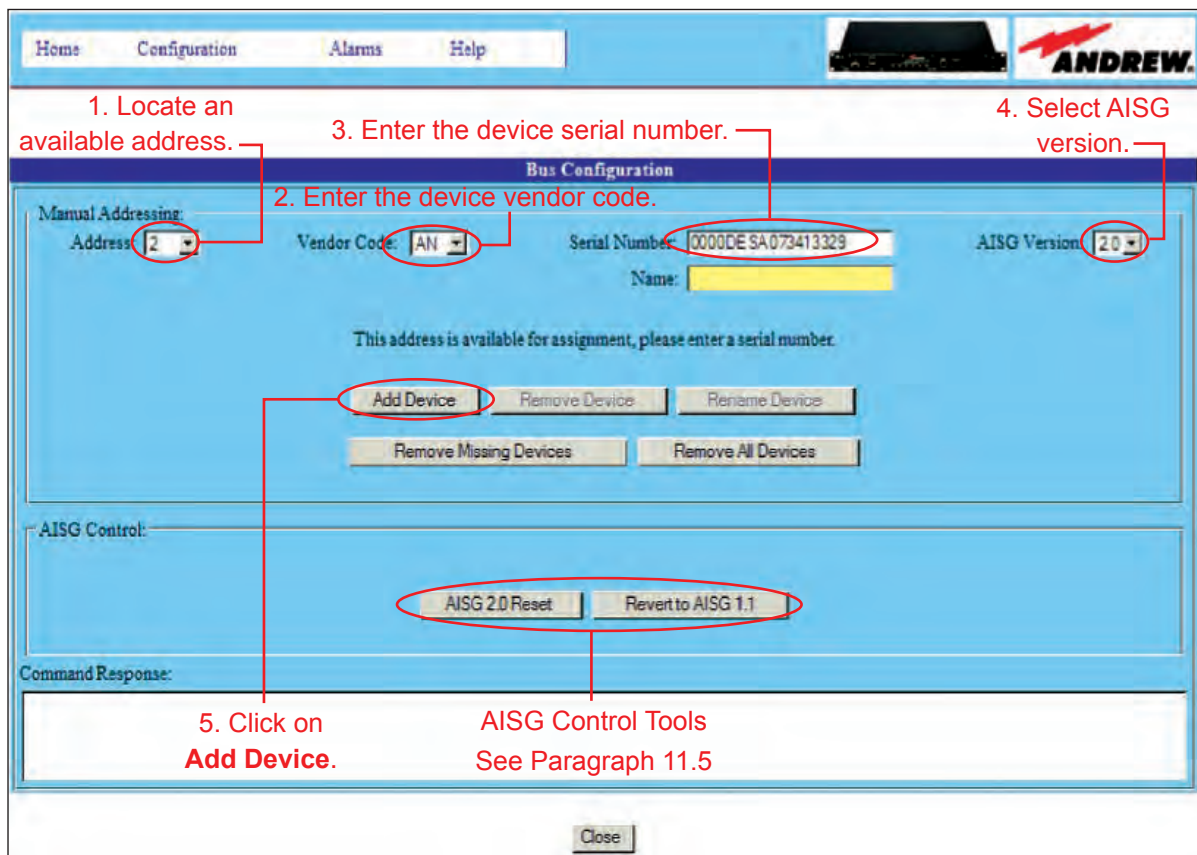

Figure 11-4. Manually Adding A Device Using **Configure Bus** Feature.
- Select an available address from the drop down list (Figure 11-4). If an address has already been assigned to a device, it can not be reassigned to another device unless the present device holding that address is first removed from the system (see paragraph 11.4).
- Type in the serial number for the device to be added (Figure 11-4).
- Select the correct **AISG Version** of this device (Figure 11-4).
- Click on **Add Device** (Figure 11-4).